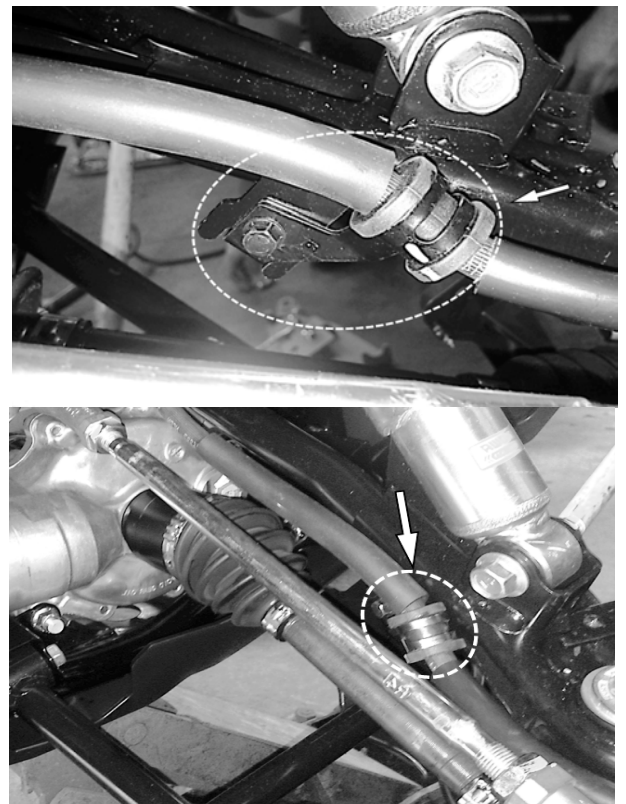

Fig. 15
5. Re-install clamps to middle mounting point on a-arm. See Fig. 15